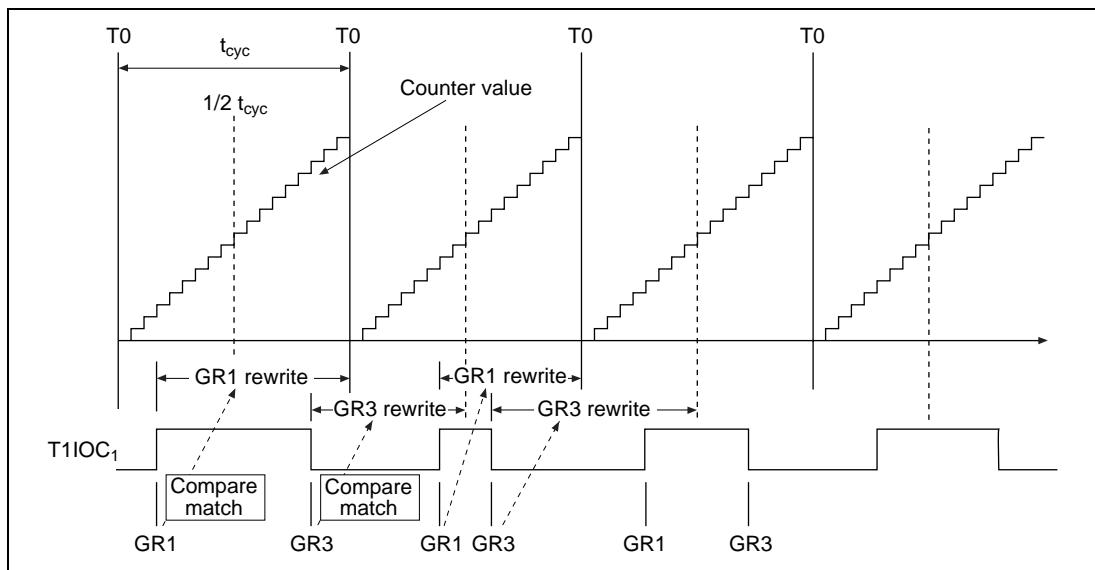

Figure 11-58 Example of Register Rewrite Timing in PWM Mode
**Rewriting the Compare Match Register in PWM Mode:** In PWM mode, to shorten the pulse width, two register values must be rewritten within the same cycle. Restrictions regarding writing to the register are as described previously. Refer to figure 11-58 for a timing diagram of actual rewrite processing (updating).